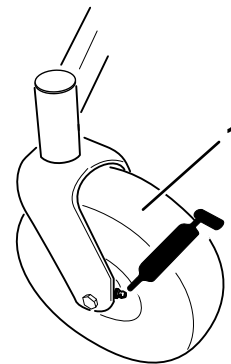

Figure 26
3. Clean the grease fittings (Figure 26) with a rag.
4. Connect a grease gun to each fitting (Figure 26).